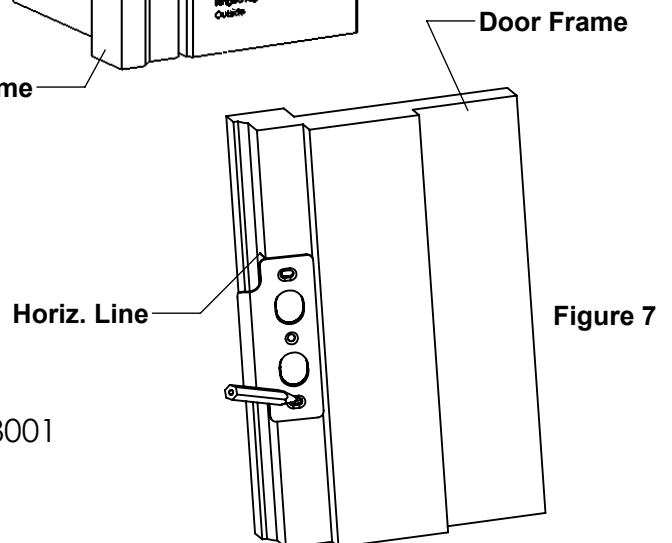

Figure 7
Step 13. Open the door and remove the **LATCH STRIKE** from the livebolt. Block the door open. Place the **LATCH STRIKE** on the door frame with the flange facing toward the outside door surface and away from the edge of the door. Align the top edge of the **LATCH STRIKE** with the horizontal line on the door frame and midway between the two vertical lines you made on the **LATCH STRIKE** in the previous step. Outline the cutouts for the top and bottom screw slots and the ovals for the livebolt and deadbolt. See Figure 7.
Step 14. Drill (2) 3/32" diameter pilot holes a minimum of one inch deep in the center of each screw slot. Saw (2) 3/4" diameter clearance holes a minimum of one-half inch deep for the livebolt and deadbolt.
Step 15. Attach the **LATCH STRIKE** using (2) **#6 X 1" PHIL FLAT SMS screws**. Tighten the screw to hold the **LATCH STRIKE** in place but allow you to move it in or out. Adjust the **LATCH STRIKE** in or out for proper function. Verify function by cycling the **LIVEBOLT ASSEMBLY** with the lever handles and the **DEADBOLT ASSEMBLY** with the thumb turn and the **KEY** to check for proper function.
Step 16. Drill (1) 3/32" diameter pilot hole a minimum of one inch deep in the center of the center screw hole in the **LATCH STRIKE**. Secure **LATCH STRIKE** with remaining **#6 X 1" PHIL FLAT SMS screw**.